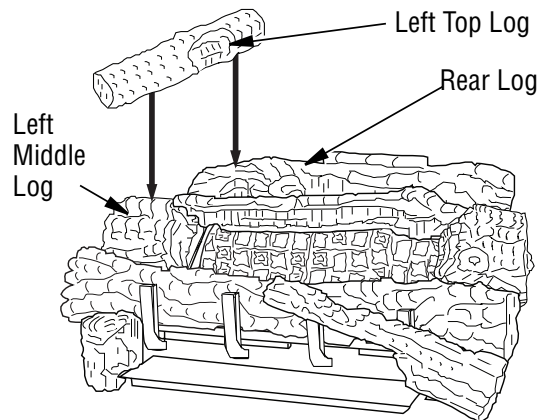

Figure 46 - Installing Left Top Log
10. Place the left top log (D-046) onto the rear log and the left middle log. Make sure to place the projection on the bottom of the left top log into the recessed areas on the rear and left middle logs (see **Figure 46**).